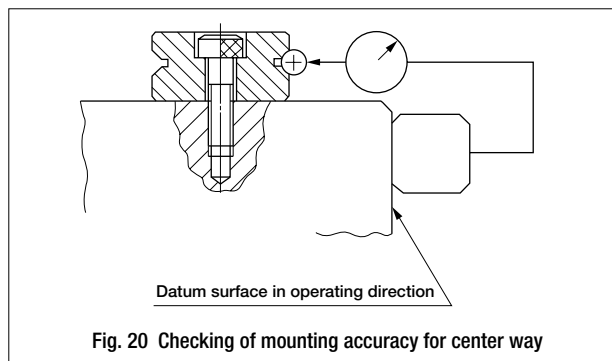

Fig. 20 Checking of mounting accuracy for center way
### ③ Mounting of center way (Fig. 20)